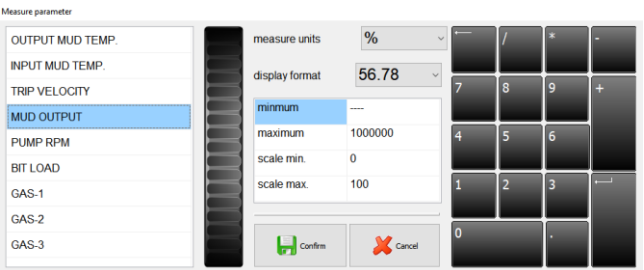

Figure 10. Parameter adjustment dialog box
1. Select the required parameter name from the list (see Fig.10);